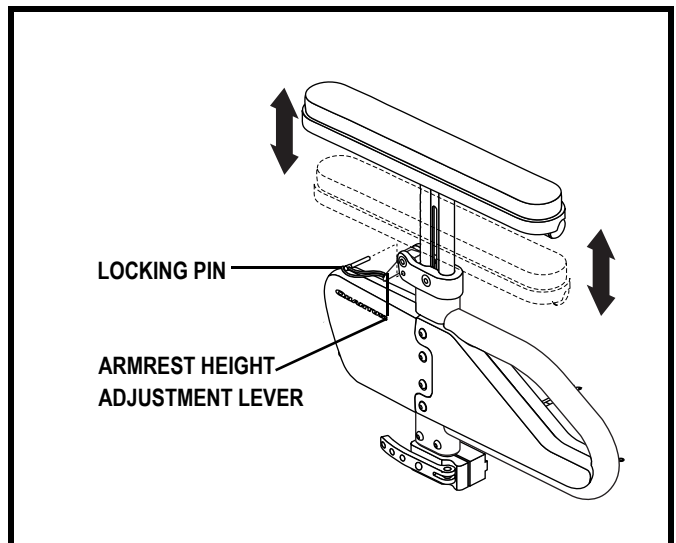

Figure 16. Armrest Top Height Adjustment
1. If present, remove the optional locking pin. See figure 16.